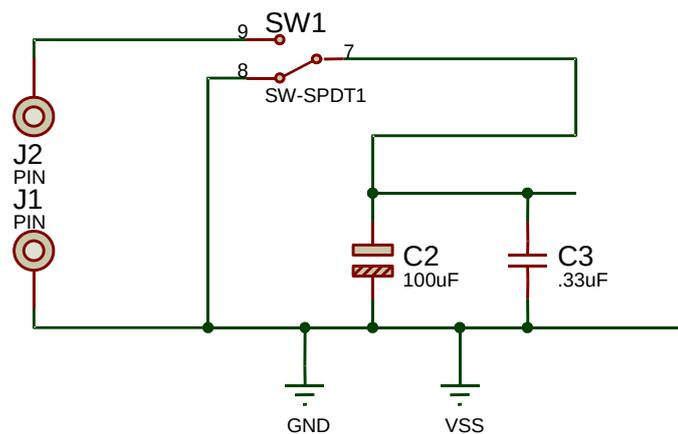

Figure 6: Exercise 1 sub-section of the 'sample'
- 7 Move and rotate *J1* & *J2* as required to get the bottom left corner of the schematic to look like Figure 6.